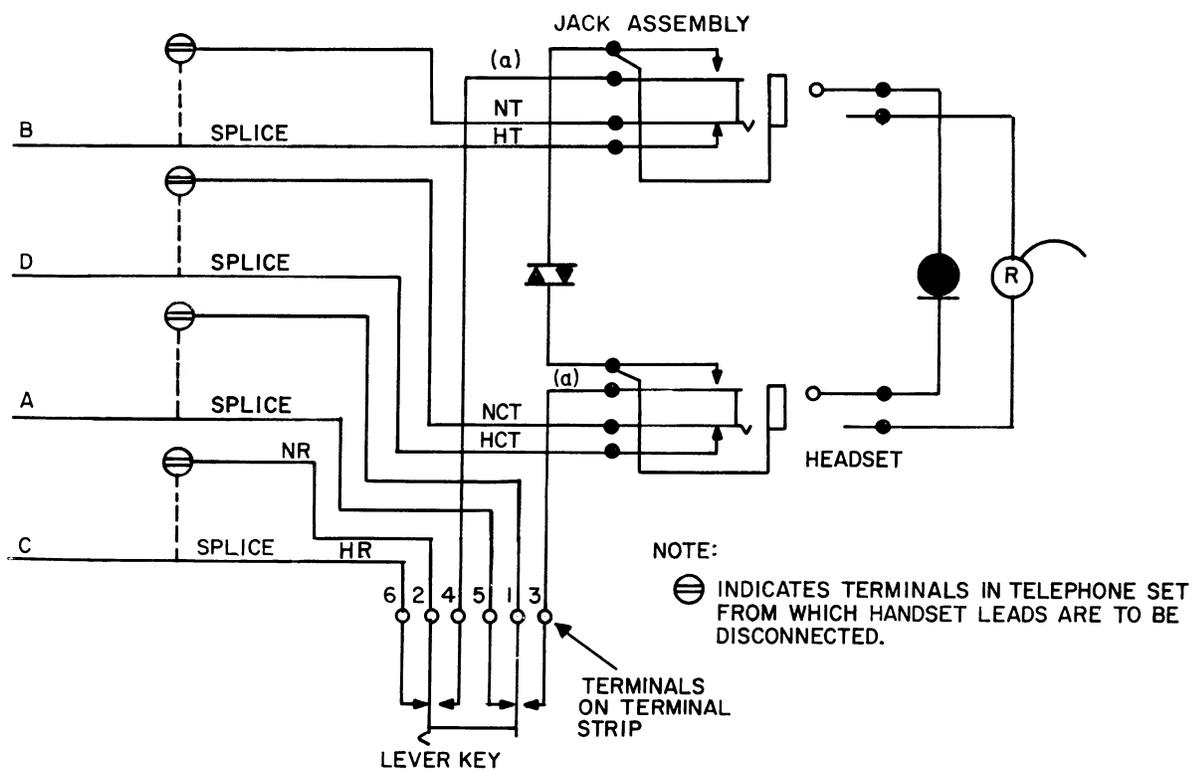

Figure 6. Schematic Diagram of Auxiliary Headset Installation on Touch Calling Telephones.
(1) Install the Touch Calling telephone set according to the appropriate section of this division of General System Practices.
(2) Determine the desired locations for the jack box and lever key.
(3) Remove the cover from the lever key.
(4) Using mounting hardware appropriate for the type of surface, mount the lever key.
(5) Using station wire, attach the two (a) leads (Figure 6) to terminals 3 and 4 of the lever key. Leave these leads long enough to reach the jack terminals with the jack box mounted in its desired location.
(6) Using 10-conductor, 26 AWG. stranded cordage, attach leads to the remaining terminals of the lever key, as shown in Figure 6. Leave the cordage long enough to reach to the associated telephone set when it is in its normal location. Leave some slack to facilitate moving the telephone about its area of location.
(7) Remove the telephone set housing.
(8) Terminate the free ends of the cordage leads in pressure-crimped spade lugs, and connect them to the associated telephone set according to Figure 6 and Table 2 (as appropriate).
NOTE: Wires A, B, C, and D, must first be disconnected from the telephone set circuitry as indicated in Table 2, before splicing them to the cordage leads as shown in Figure 6. The remaining cordage leads are then connected to the terminals thus vacated, as shown in Figure 6.
- (b) Connect leads (a), (a), from the lever key as shown in Figure 6.
- (c) Install the varistor and 50 Ω , 5W resistor on the jack terminals as shown in Figure 6.